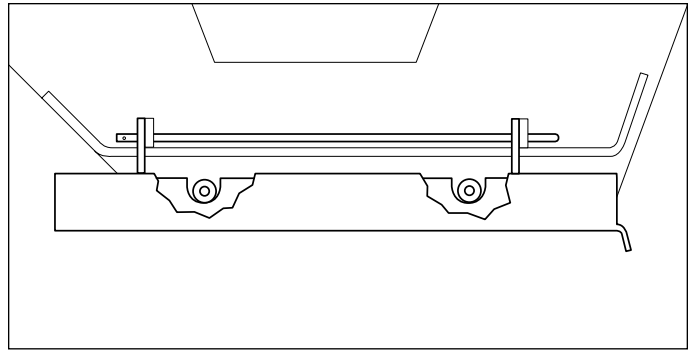

Figure 8. Spacer Location
2. While holding the blower against the deck and chute mount tabs, place the spacers on the mower deck in the recesses of the mount plate. Make sure they are at the bottom of the recess (see Figure 8). Mark their location with a paint pen or prick punch.